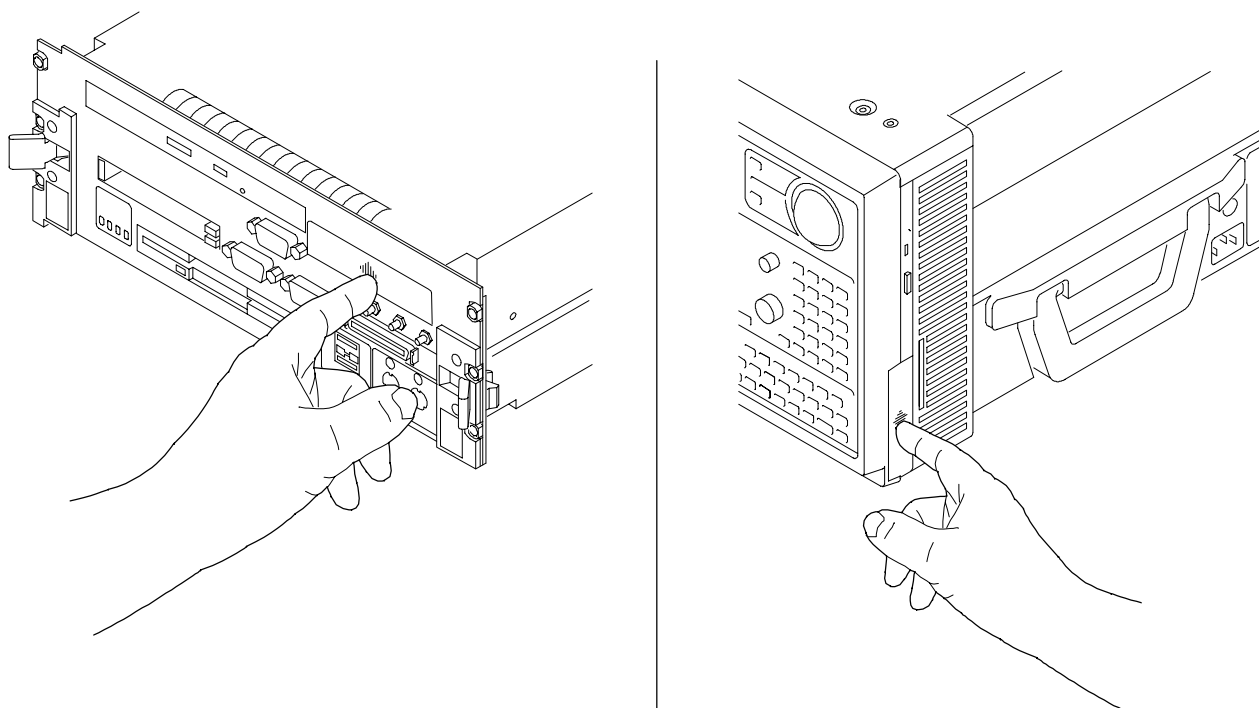

**Figure 1-17: Depress the hard disk drive latch**
3. Pull on the replaceable hard disk drive cartridge to remove it from the chassis. Figures 1-17, 1-18, and 1-19 show the procedures for removing the hard disk drive for the benchtop controller and for the portable mainframe.